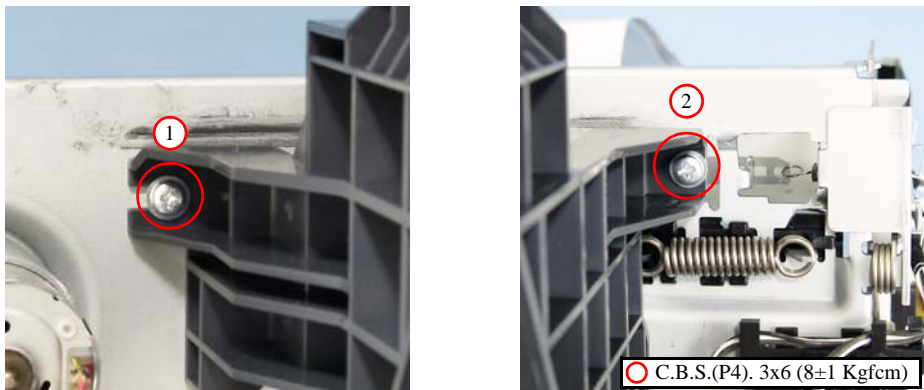

Figure 4-72. Removing the ASF Unit (2)
- Tighten the screws in the order given in Fig. 4-72.